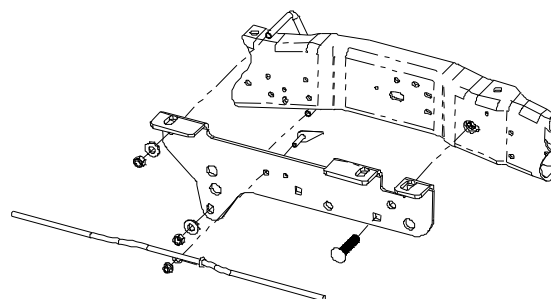

Figure 4b
- a. **For 1999 - 2004 vehicles:** Use the hardware removed in Step 3 to attach the upper brake cable to the frame bracket as shown in Figure 4b.